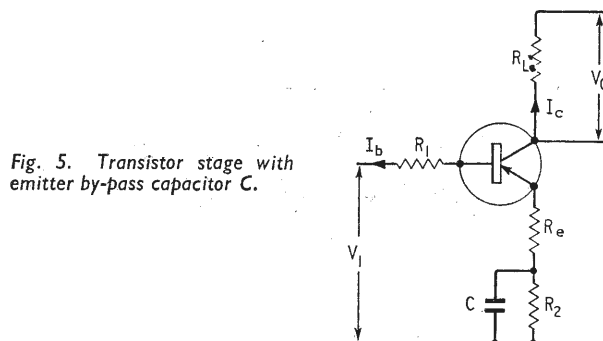
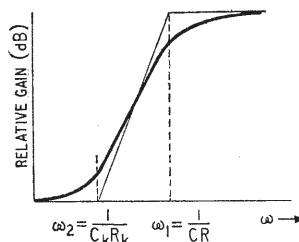

Fig. 5. Transistor stage with emitter by-pass capacitor  $C$ .
Fig. 6. Variation with frequency of transistor stage gain.
Now suppose that  $Z_L$  is a resistor  $R_L$ ,  $Z_1$  is a resistor  $R_1$  and  $Z_e$  comprises a resistor  $R_2$  in parallel with a capacitor  $C$ , both in series with a resistor  $R_e$  as shown in Fig. 5. Thus :—
By substituting the various component values into equation (14), we can obtain an expression for the voltage gain of Fig. 5 :—
The imaginary resistor  $R$  can be thought of as a resistor  $R_2$  shunted by the series combination of  $R_e$  and  $(1 - \alpha)R_1$ . The frequency response obtained with the arrangement of Fig. 5 can be plotted as shown in Fig. 6. In this case :—